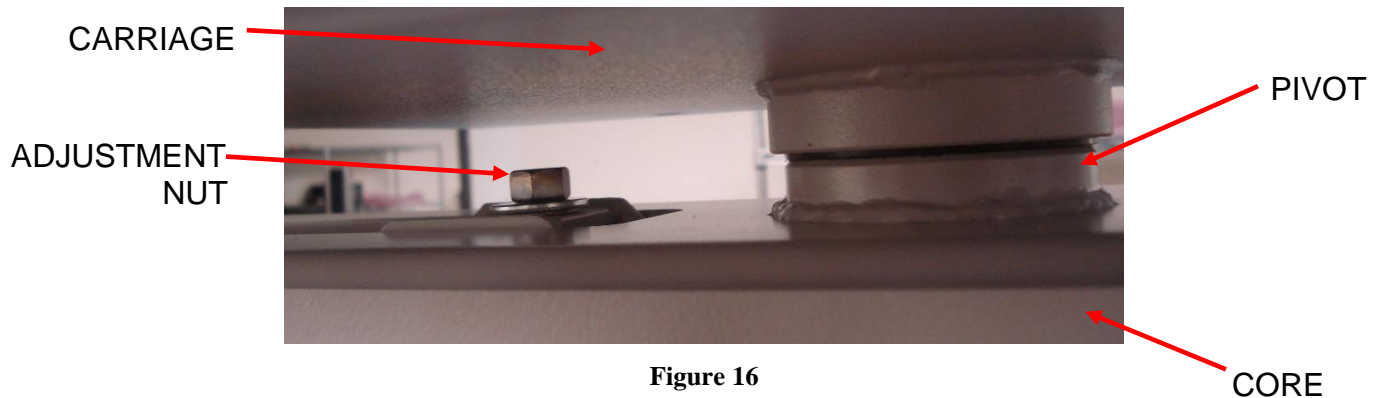

Figure 16
2. *Prior to adjustment* - payload must be secure. The arm can be pulled down to make access to adjustment nut easier. Fine adjustment to compensate monitor counterbalance can be made by turning adjustment nut located on the top surface of the core unit as shown in Figure 16.